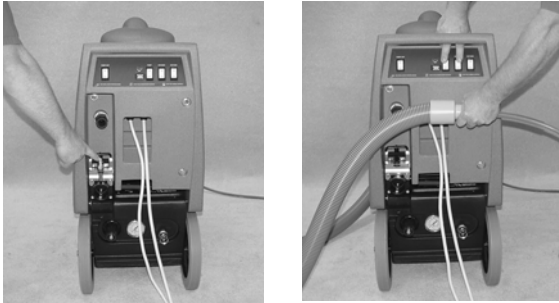

Fig. 8
2. Place freeze protection drain nozzle in end of vacuum hose and seal with hand (Figure 8).